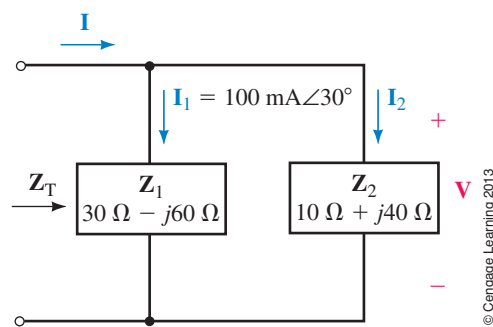

FIGURE 18-106
36. Consider the network of Figure 18-106.